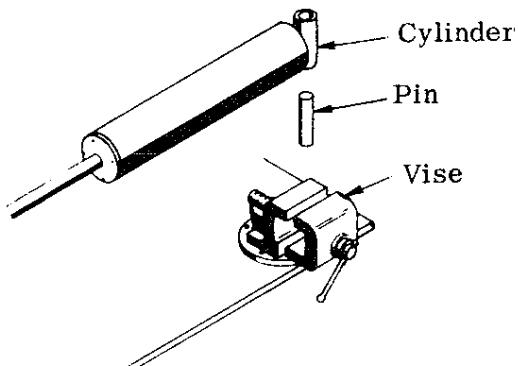
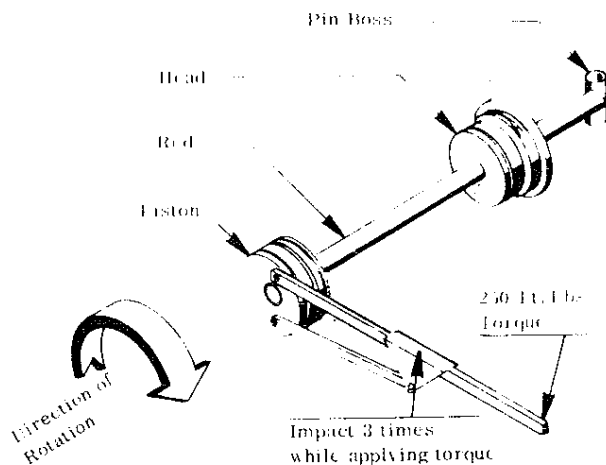

Figure G-1. Securing Cylinder
Figure G-6. Piston/Rod Assembly
3. Place the cylinder on a flat surface near a vise. Slip a pin through the pin boss and clamp the pin in a vise (Figure G-1)
5. Secure the rod pin boss in the same manner as the cylinder pin boss (Figure G-1).
- 13 Secure the rod as shown in Figure G-1 and screw the piston onto the rod by hand. You should be able to get the piston almost all the way onto the rod before using the spanner wrench.
- 14 Torque the piston onto the rod at 250 ft. lbs. of torque. Impact the wrench three times with a heavy plastic hammer while maintaining the torque (Figure G-6).
- 18 Secure the cylinder (Figure G-1) and torque the head in the same manner as the piston (Step 14, Figure G-6).